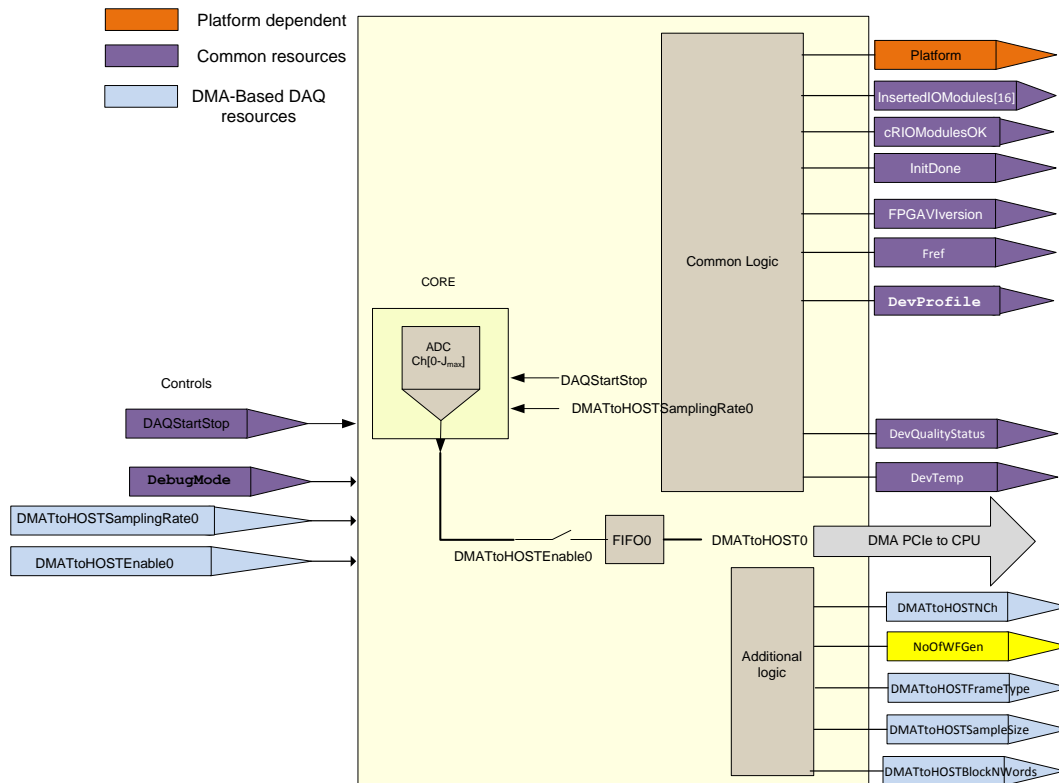

Fig. 43: coreDAQ. Minimum element for implementing data acquisition in a cRIO device
**DMATtoHOSTNCh:** U16 array indicator. This indicator has the information about the number of DMA channels implemented and channels allocated inside the different DMAs. The values of the different array elements are the number of channels. A group is defined as the set of channels included in one DMA (see Fig. 43).